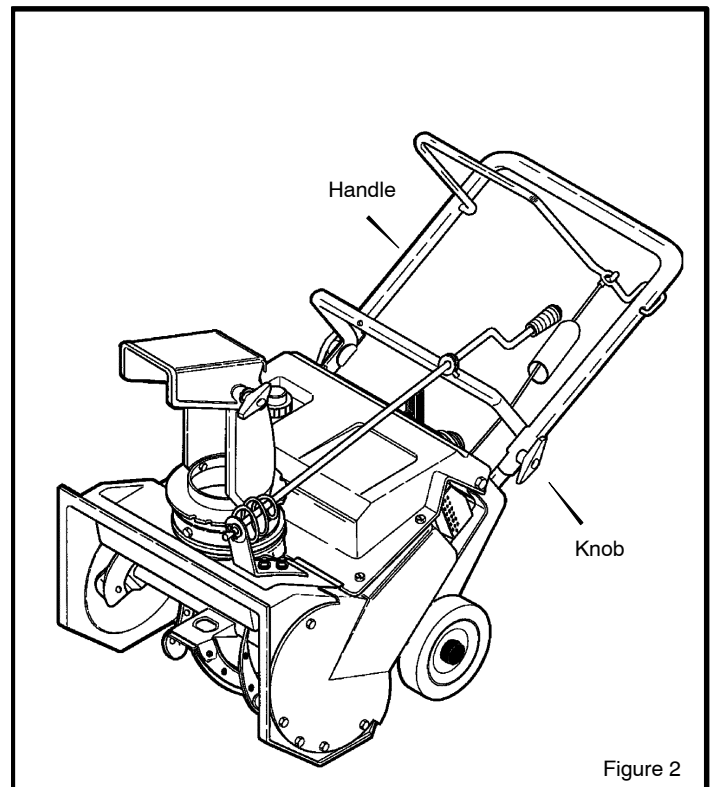

Figure 2
Figure 2 shows the snow thrower in the operating position.
2. Loosen the **knobs** on each side of the **handle**. (See Figure 2)